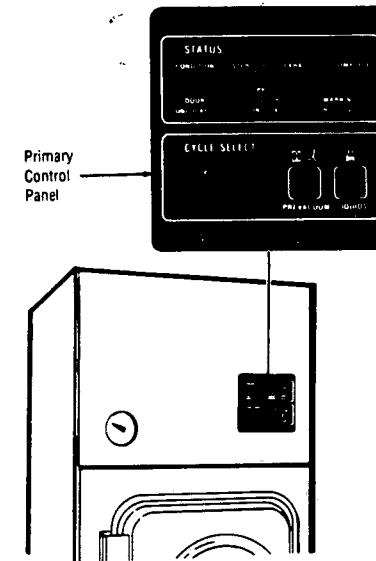

Figure 2-4. NON-OPERATING END PRIMARY CONTROL PANEL.
2.8 CONTROLS AND SIGNALS FOR DOUBLE-DOOR STERILIZERS (Fig. 2.4)